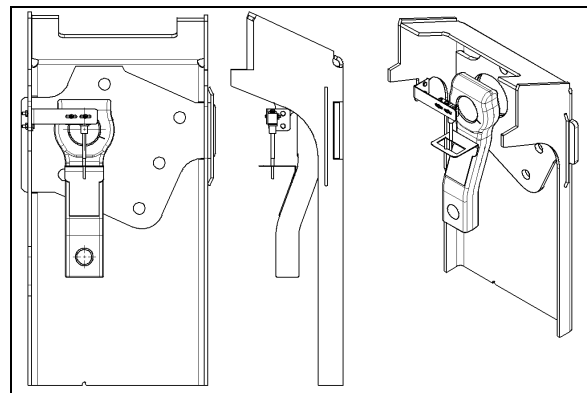

FIGURE 21: TAG AXLE UNLOADING SWITCH ADJUSTMENT 14061
2. Line up switch lever with reference to the bracket center (Refer to Figure 21).
In selecting proper lubricants, supplier reputation must be considered. The supplier must be responsible for product quality. Figure 21 shows approximate location of steering lubrication fittings.